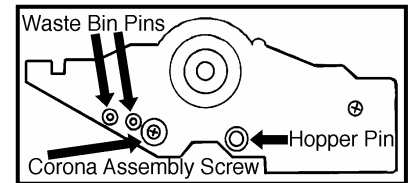
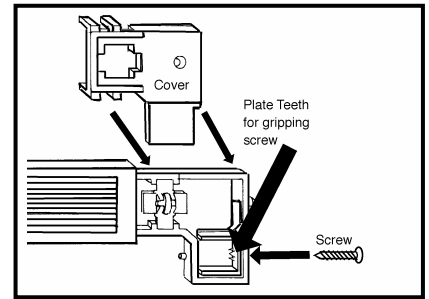

Figure 2
Figure 6
6. Rotate the cartridge to the other end and remove the two pins holding the waste bin in place and the one pin holding the hopper in place (Fig. 2).
10. Remove and clean the corona assembly. Remove the corona assembly by removing its screw (Fig. 2). Pry the corona assembly to the left and lift it out. There are two industry methods of cleaning this assembly, manual and ultrasonic. The manual method requires using a Scotchbrite® pad. Use a small piece of the pad and gently move the pad up and down the length of the wire. The ultrasonic method requires placing the entire corona assembly in an ultrasonic cleaner. **Note:** After removing the corona assembly two or three times, you need to insure that the contact plate teeth for the corona assembly screw (Fig. 6) have not been spread too far.